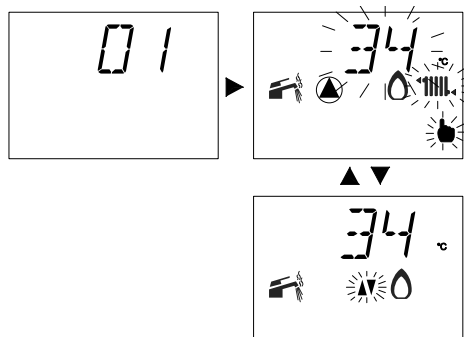

Figure 15.15
- The activation of Chimney cleaning also is indicated on the LCD display by the symbols shown in Figure 15.15 turning on alternately.